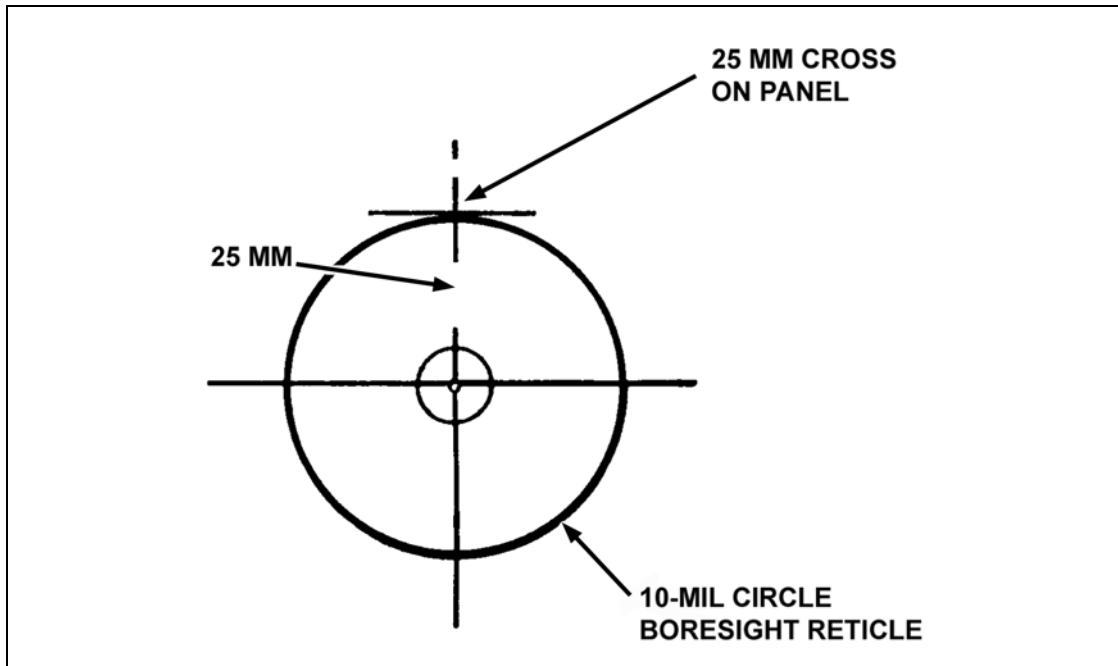

Figure B-44. 10-mil circle aligned with the 25-mm cross.
- (1) (Helper) rotate the telescope until the eyepiece faces upward.
- (2) (Helper) align the boresight reticle with the 25-mm cross on the panel.
- (a) Tell gunner to align the top of the 10-mil circle of the boresight reticle with the 25-mm cross on the panel (Figure B-44).